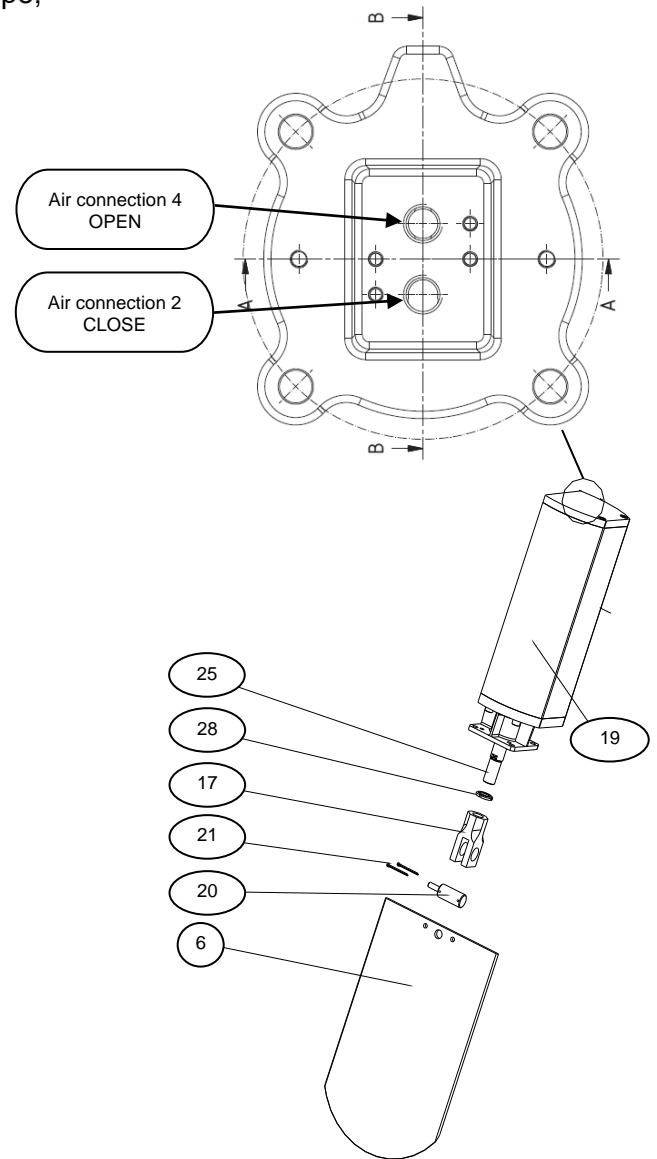

Fig. 3
- **When assembling the cylinder**, the following is to be prepared (pos. number see Fig. 3):
- The clevis pin (20) and the split pins(21) match,